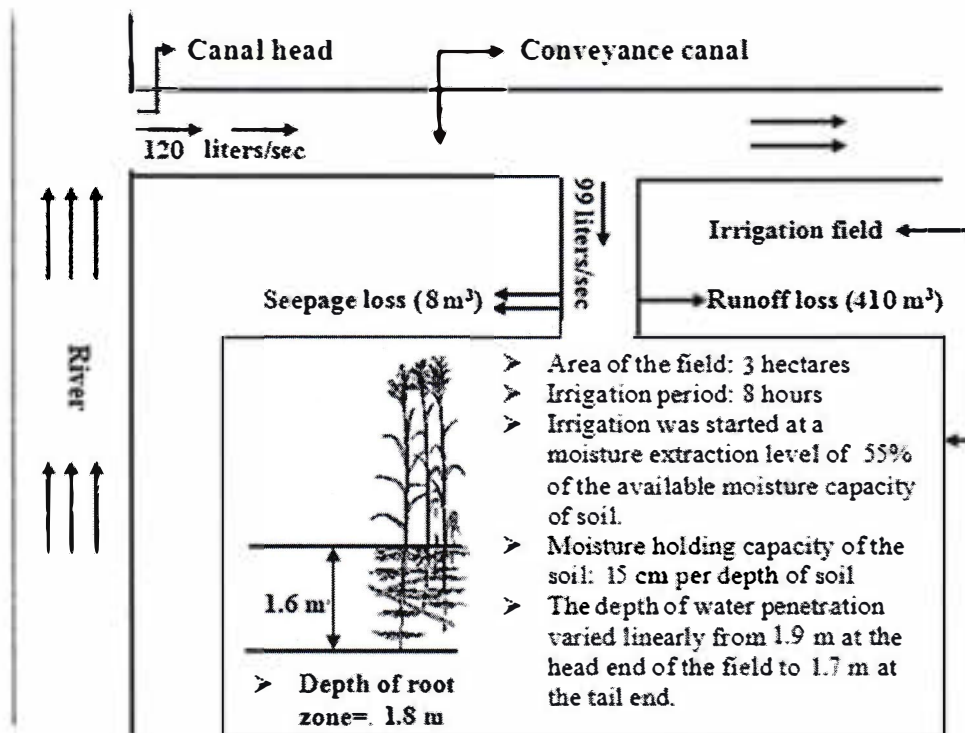

Figure 3
- b) By analyzing the data and information provided in **figure 3**, find out the following: 14